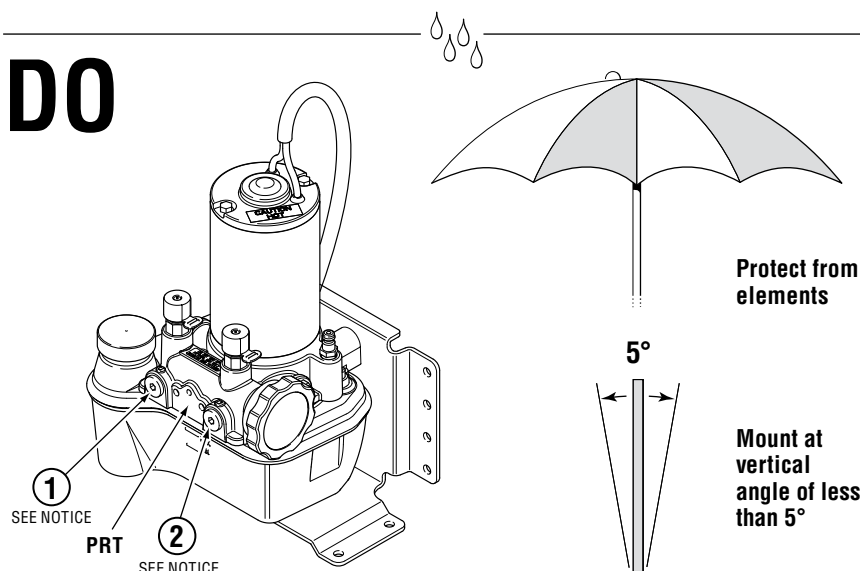

Figure 4-9.
Hose fittings can be relocated to plugged ports if required. (See figure 4-9, item 1 and 2.) Torque hose fittings to 18 ft-lb (24 Nm) and plugs to 50 in-lb (6 Nm).
Check that the pump is marked "PRT" in the location indicated in figure 4-9. Do not use the pump if it isn't marked.